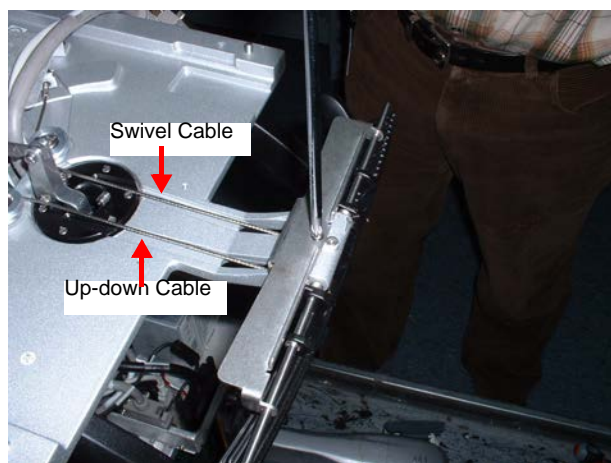

Figure 8-189 Protective Metal Plate Rotated 90 Degrees
- 3.) Unscrew the protective metal plate (shown in Figure 8-189) and rotate it upwards 90 degrees.